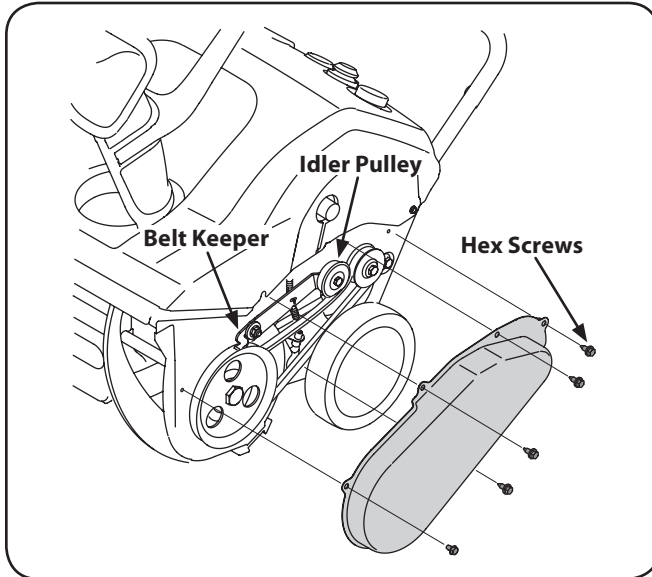

Figure 8-1
1. Remove the belt cover by removing the five hex screws that secure it to the frame. See Fig. 8-1.
NOTE: Push down on the idler pulley to release the belt from under the belt keeper. See Fig. 8-1.